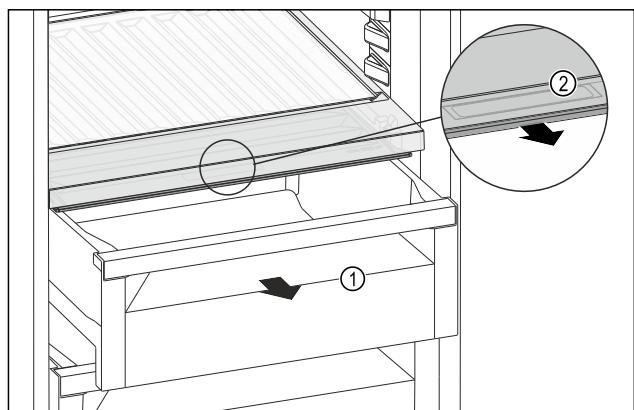

Fig. 114
- ▶ Pull out the drawer *Fig. 114 (1)*.
- ▶ Grip the handle recess *Fig. 114 (2)* on the lid while pulling the lid forward at the same time.